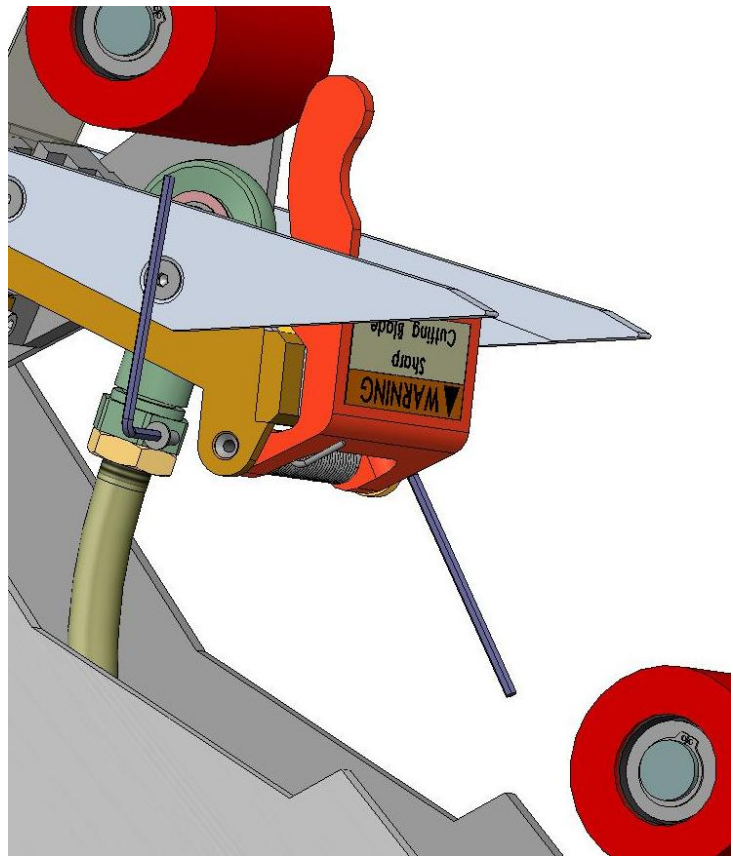

Figure 10-20
1. Apply some purple Loctite to the threads of the M3 screw and fasten to the end of the cross shaft. Tighten using two 2mm hexagonal keys as shown in Figure 10-20